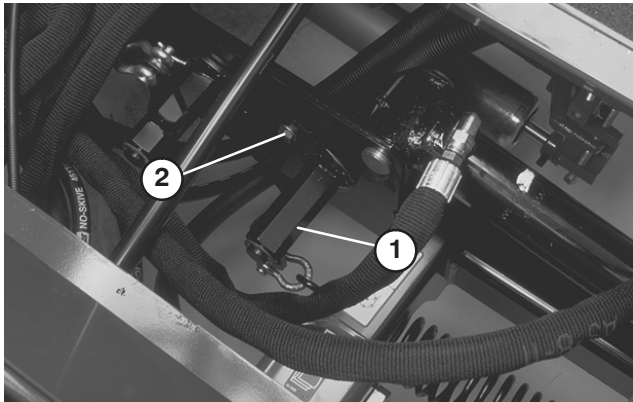

Figure 32
3. Place an open end wrench on the hex shaft of the spring bracket (Fig. 32).
4. Remove the capscrew and locknut securing retaining bracket (Fig. 32), while rotating hex shaft to relieve spring tension.